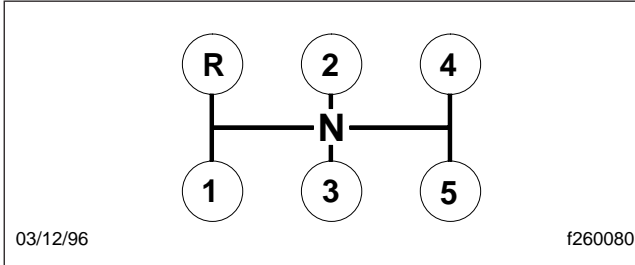

Fig. 5.1, Shift Pattern, FS-4205A/B, FS-5205A/B, and FS-6305A/B
Fuller FS-4205A/B, FS-5205A/B, and FS-6305A/B transmissions have five forward speeds and one Reverse (R) speed. See Fig. 5.1 for the shift pattern.